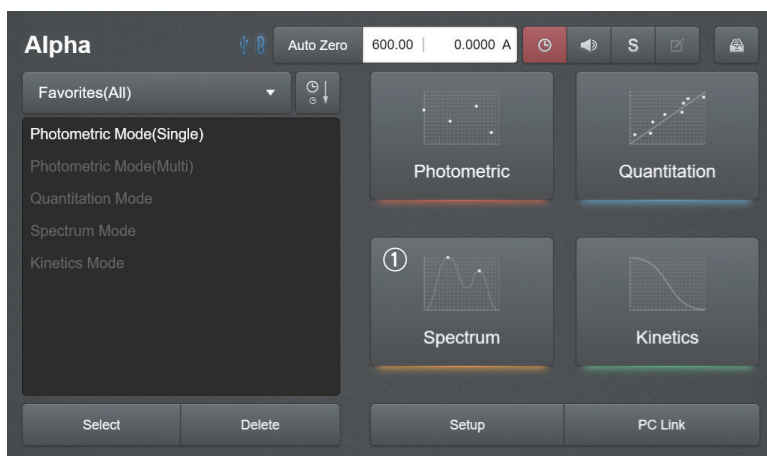

Fig. 5.9
1. [Fig. 5.9] Select ① **Spectrum Mode** Mode on the main page.